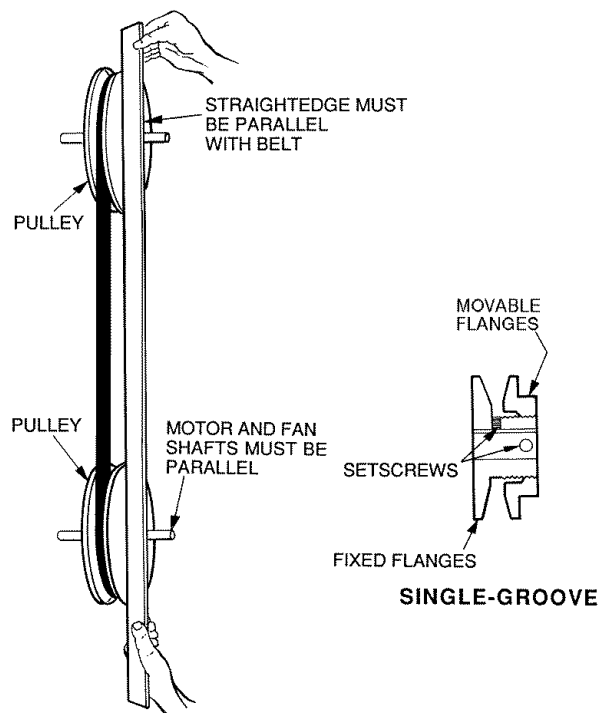

Fig. 34 — Evaporator-Fan Alignment and Adjustment
3. Loosen movable-pulley flange setscrew (see Fig. 34).